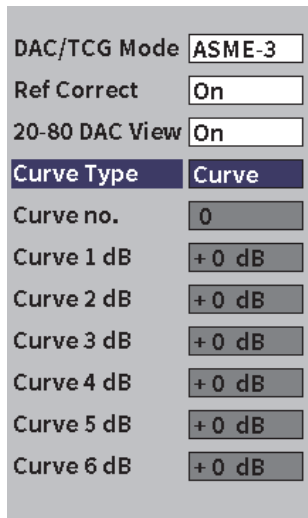

Figure 11-2 DAC/TCG dialog box
2. Select the **DAC** icon () , and then press the Enter key to open the DAC/TCG dialog box (see Figure 11-2 on page 156). See “Navigating Dialog Boxes and Setup Pages” on page 19 for details on using dialog boxes.